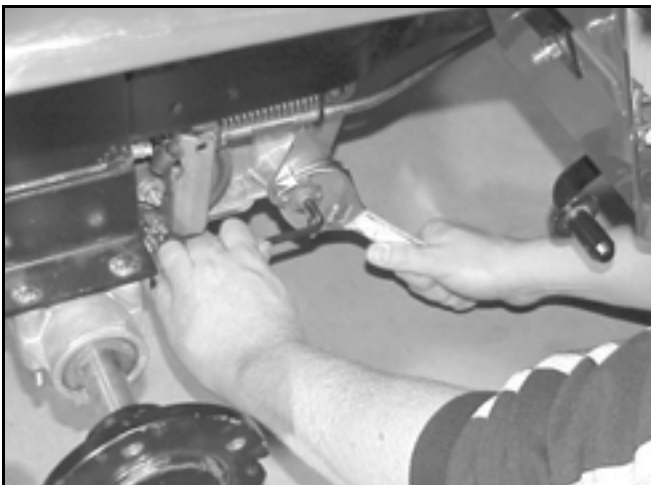

Figure 144
5. Once you are in neutral, hold the puck with an adjustable wrench so it won't move when you re-tighten the Allen set screw (Figure 144).